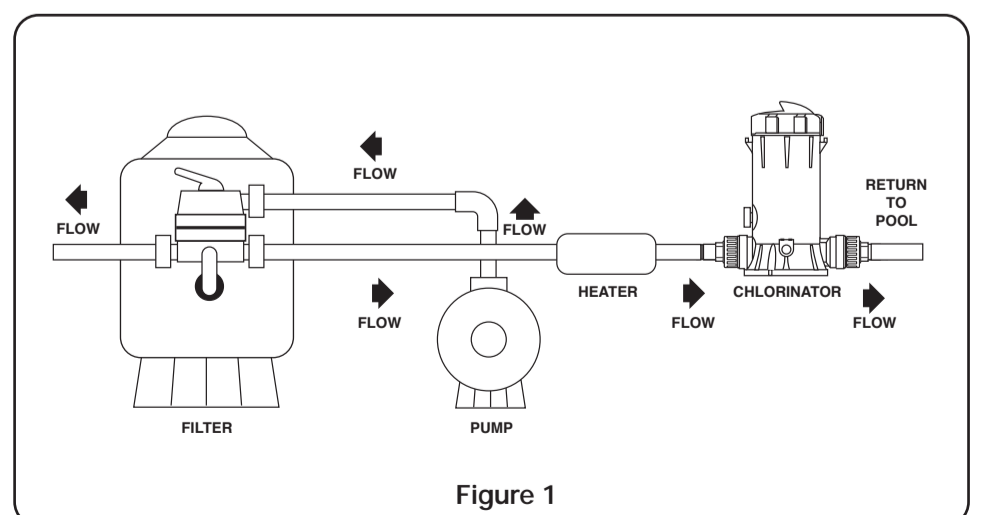

Figure 1
5. See Illustration (Figure 1).